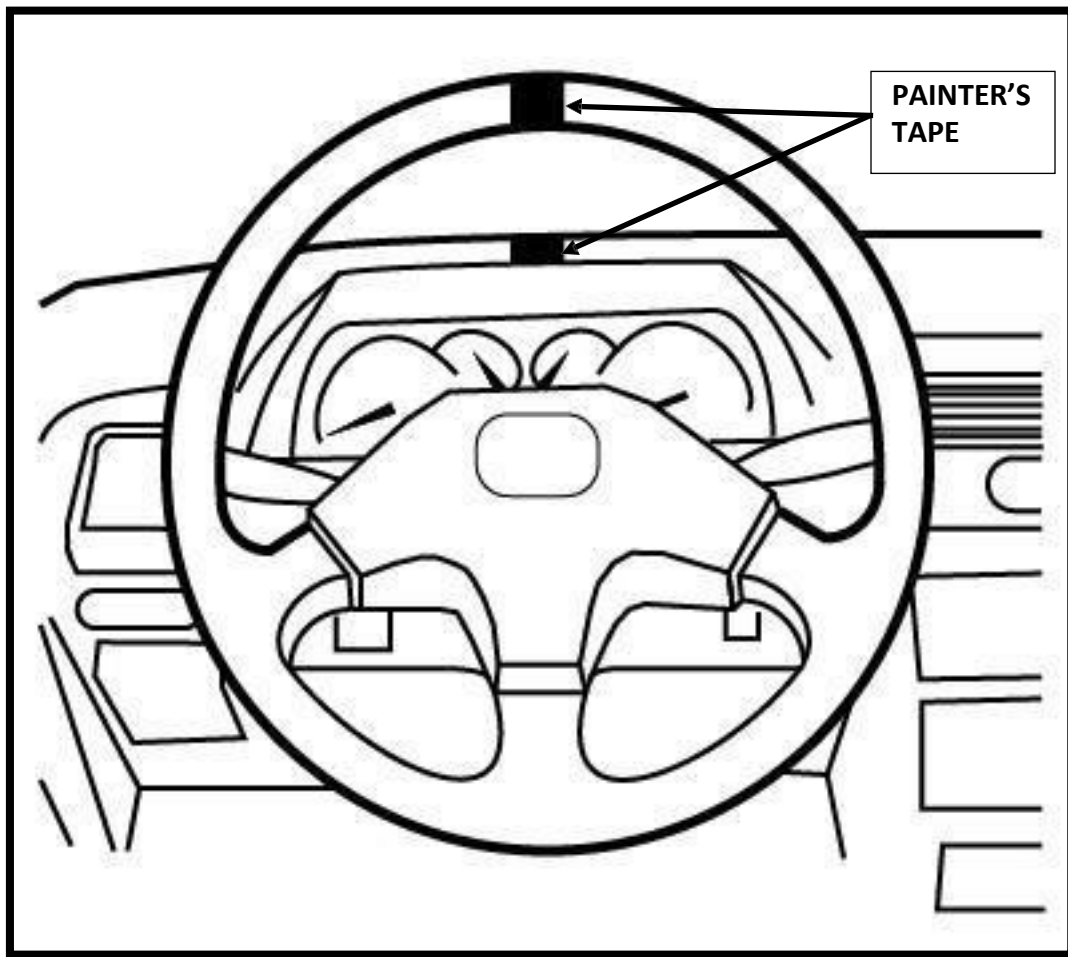

Figure 6. Tape Application to Steering Wheel and Dashboard
- One person must hold the steering wheel so that the wheels remain in the straight ahead position, while the second person steps outside the vehicle to adjust the SAFE T PLUS® unit. If second person is not available, place a strip of **painter's tape** on the top center of the steering wheel, and place a strip on the dashboard above the instrument cluster, directly in line with tape on steering wheel before exiting the vehicle (*Figure 6*).